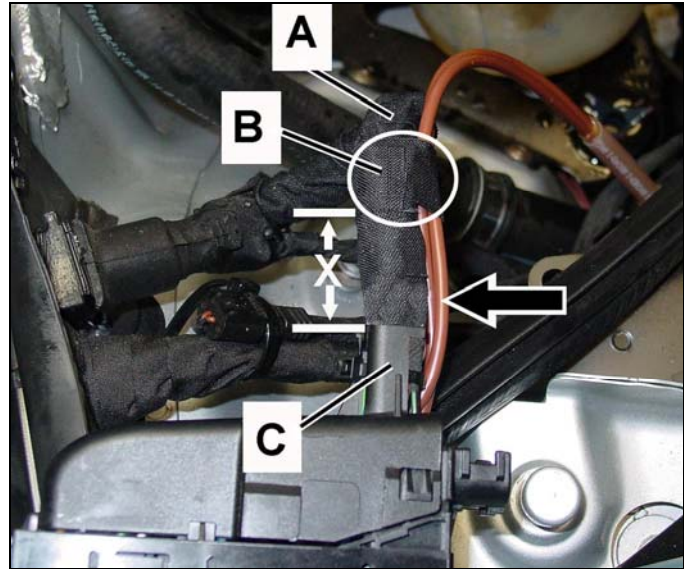

Figure 15
21. Secure ground wiring harness (arrow, Figure 15) to SBC wire harness (A) using two layers of fabric tape (B) in the circled area. Start taping approximately 35 mm ($X = 35$ mm, Figure 15) from end of connector cover receptacle (C).